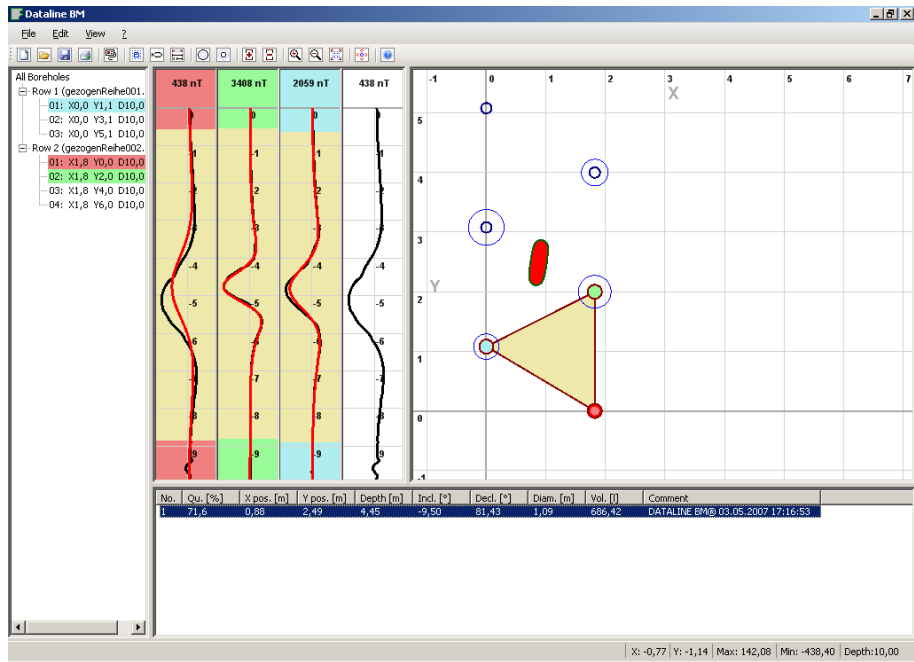

Fig. 2 FEREX DATALINE BM, example with borehole layout, display of a suspicious object, optimized object calculation
- Triangulation mathematics based on dipole model allowing extrapolation outside selected holes (see fig. 2)